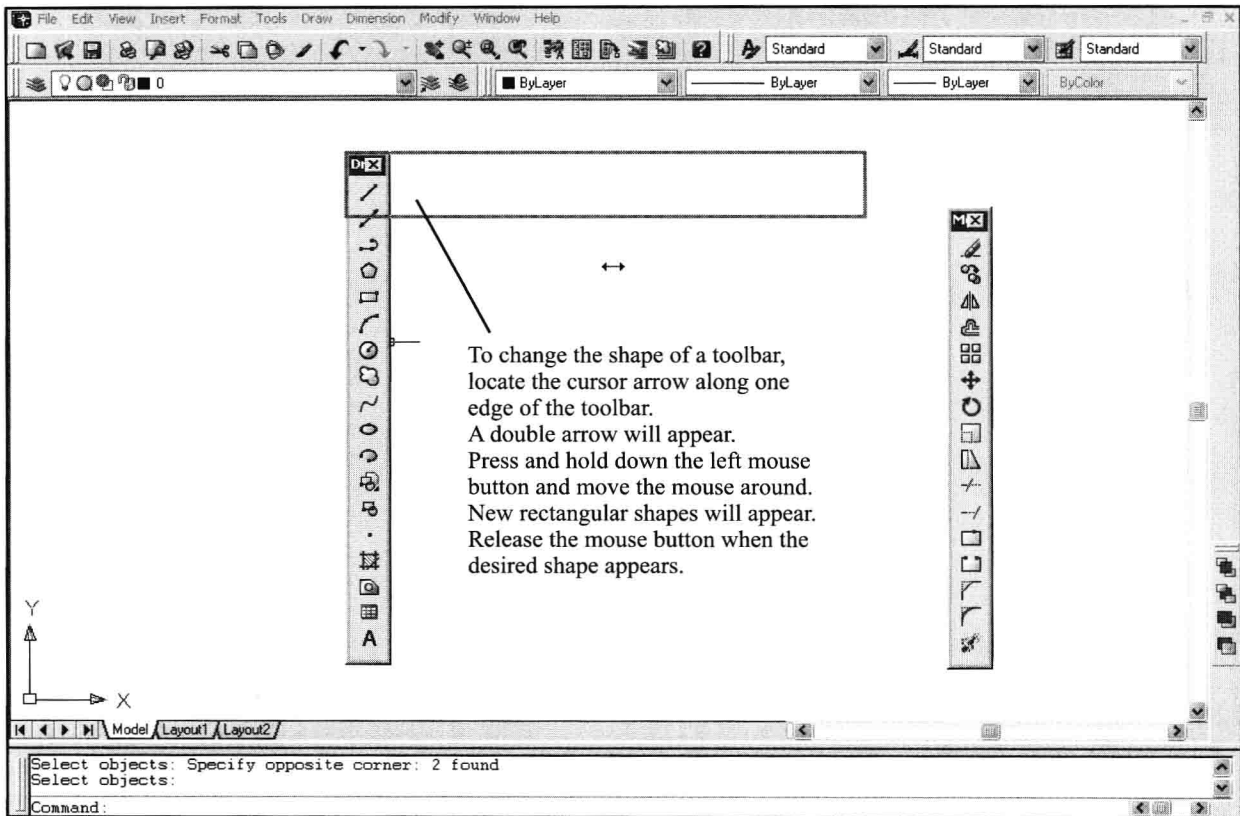

Figure 1-3
See Figure 1-3.
1. Locate the cursor arrow along the bottom or edge lines of the toolbar and return the toolbar to its original shape using the procedure outlined in Figure 1-3.